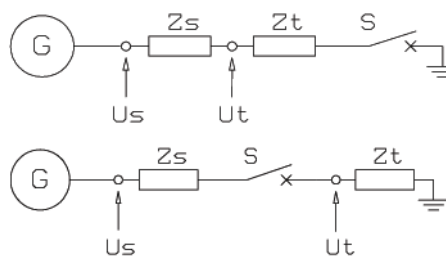

Fig 3: post-set (upper) and pre-set testing
a. Post-set short-circuit (fig. 3 below). With the post-set method the transformer is energized at one side (the other side is open) and after the inrush currents have disappeared the short circuit is switched in at the other side. Before short circuiting, the source voltage  $U_s$  appears at the terminals of the
b. Pre-set short circuit (fig. 3 lower). With the pre-set method one side of the transformer is short circuited before the application of the voltage.